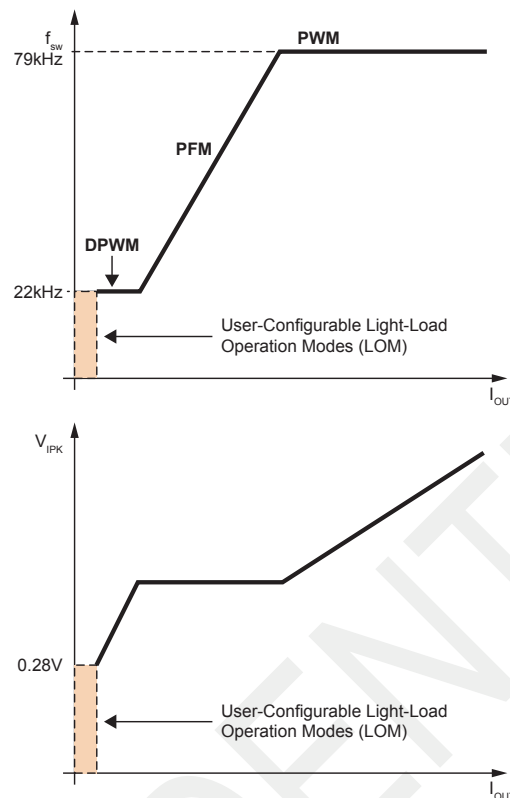

Figure 10.6 : Multi-Mode PWM/PFM in iW1825 at Mid-High Loads
The iW1825 uses a proprietary adaptive multi-mode PWM/PFM control to dramatically improve the light-load efficiency and the overall average efficiency. The operating mode changes as the load decreases in order to maximize efficiency. Figure 10.6 shows how the switching frequency and the V_{IPK} vary with the load. During constant voltage (CV) mode operation under heavy load, the iW1825 operates in pulse-width-modulation (PWM) mode. In PWM mode, the switching frequency remains approximately constant. As the output load decreases, the on-time (t_{ON}) decreases, and the controller adaptively transitions to a pulse-frequency-modulation (PFM) mode. In PFM mode, the MOSFET is turned on for a set duration under a given instantly-rectified AC input voltage, but its off-time is modulated by the load current, decreasing the switching frequency.